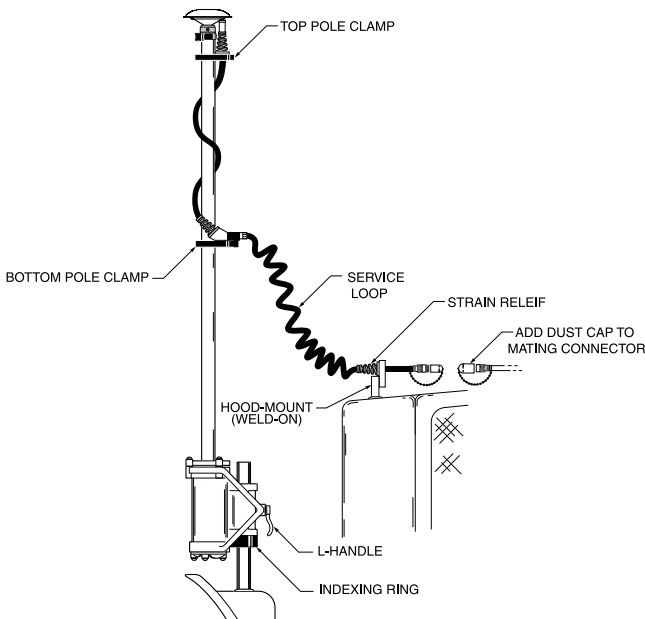

Figure 5-6. MC-A1 Antenna Mounting on GPS Vibration Pole – Dozer Example
The MC-A1 GPS+ antenna is designed for quick setup at the beginning of the day and quick removal at the end of the day. Figure 5-6 shows an example of mounting the MC-A1 antenna and connecting the antenna cable.
3. Connect the GPS antenna cable to the antenna and machine (Figure 5-6).